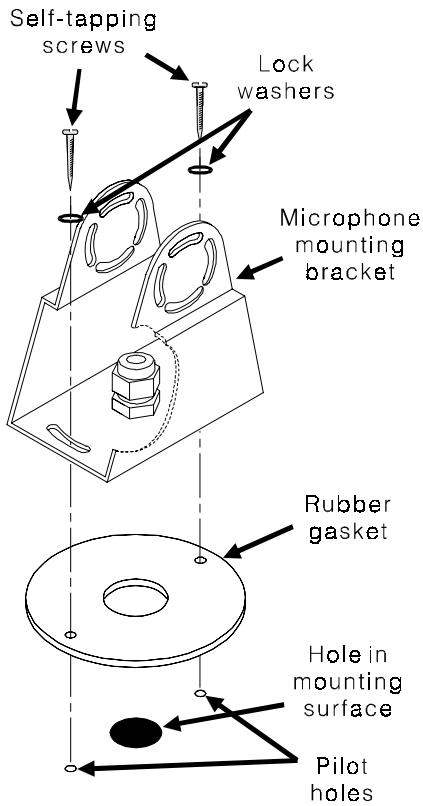

Figure E-3. Installing gasket and bracket
- Drill a $\frac{3}{16}$ inch (4.76 mm) hole through the selected mounting surface and center the enclosed rubber gasket over the hole, with the two screw holes in the gasket to the front and rear of the position the microphone will face as shown in Figure E-3. Mark the mounting surface through the two screw holes.
- Center the rubber gasket over the three holes and place the microphone mounting bracket over the gasket. Place one of the enclosed lock washers and self-tapping screws through the screw slot at the front of the bracket and the screw hole in the gasket below it as shown in Figure E-3. Using a high-speed drill, drill the screw through the mounting surface to secure the bracket in place. Do not over tighten the screw, or the metal bracket could be damaged. Secure the rear of the bracket in place with the remaining washer and screw in the same manner.